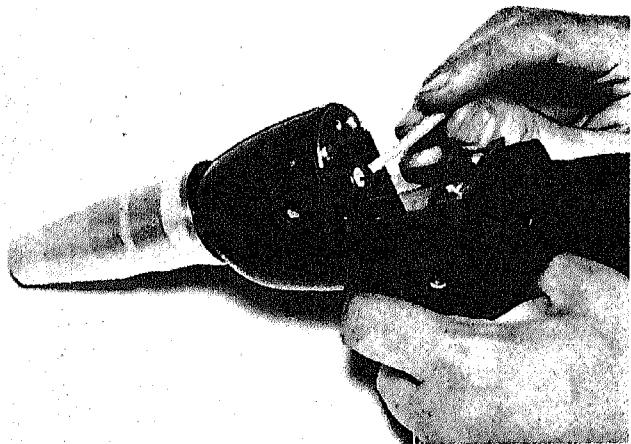

Figure 14. Installing Outlet Guide Sleeve in Gun
a. Insert a 1-3/16-inch long outlet guide sleeve (Fig. 14) into liner retainer of Gun. Push sleeve all the way in until end is at base of retainer counterbore (Fig. 15). (Slots in retainer hold the sleeve in place.)